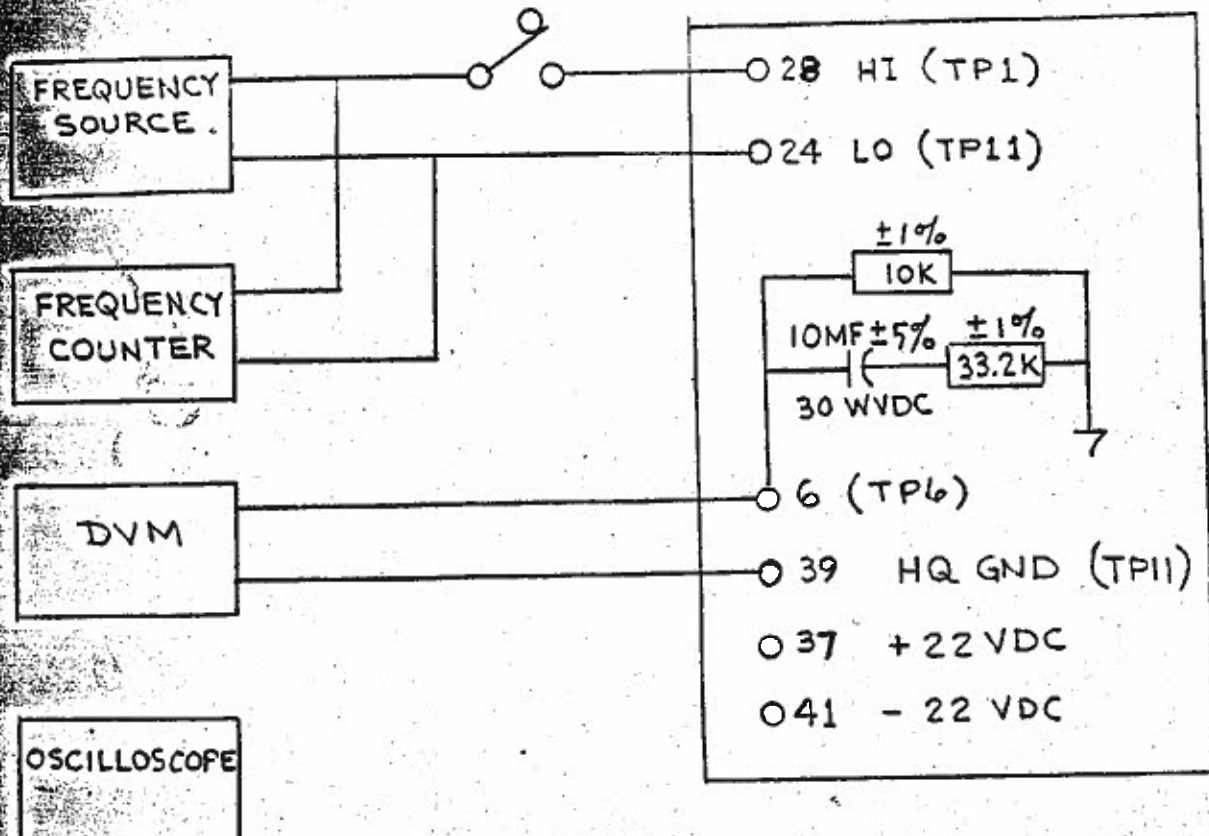

FIGURE 4
1. CONNECT F/V circuit board per test set-up shown in Figure 4.